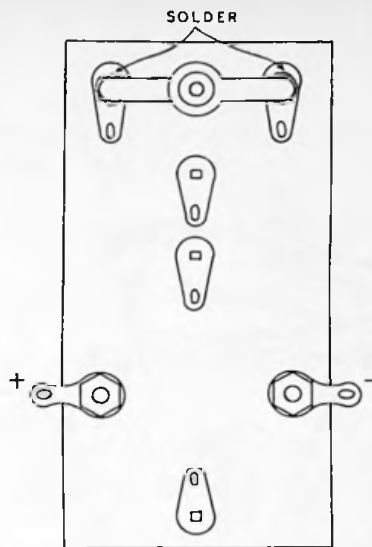

Figure 7
- () Solder the pilot light socket to the terminals as shown in Figure 7 (S).